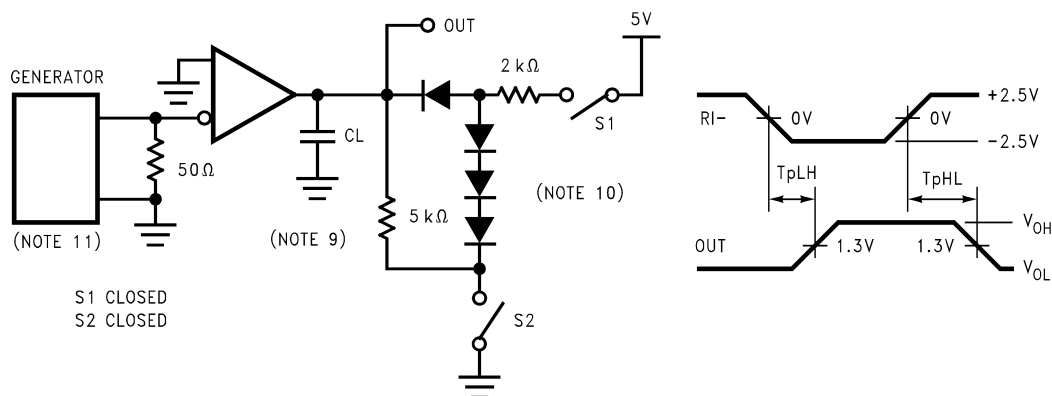
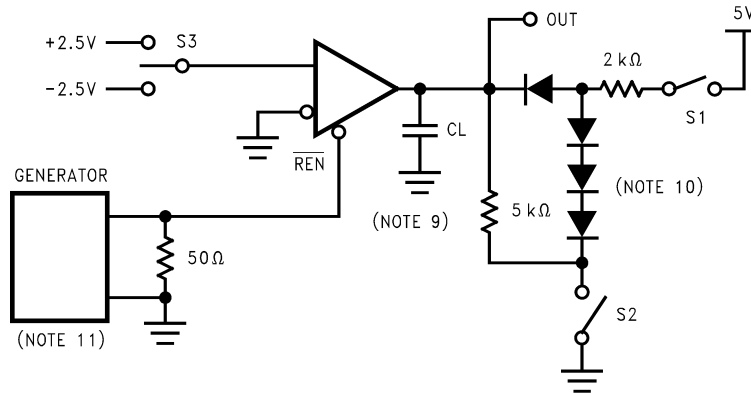

Figure 1.
Figure 2.
(1) All currents into device pins are shown as positive values; all currents out of the device are shown as negative; all voltages are referenced to ground unless otherwise specified. All values shown as max or min are classified on absolute value basis.
(2) All typical values are  $V_{CC} = 5V, T_A = 25^\circ C$ .
(3) Only one output at a time should be shorted.
**Receiver Switching Characteristics (Figure 1) (Figure 2) (Figure 2)**